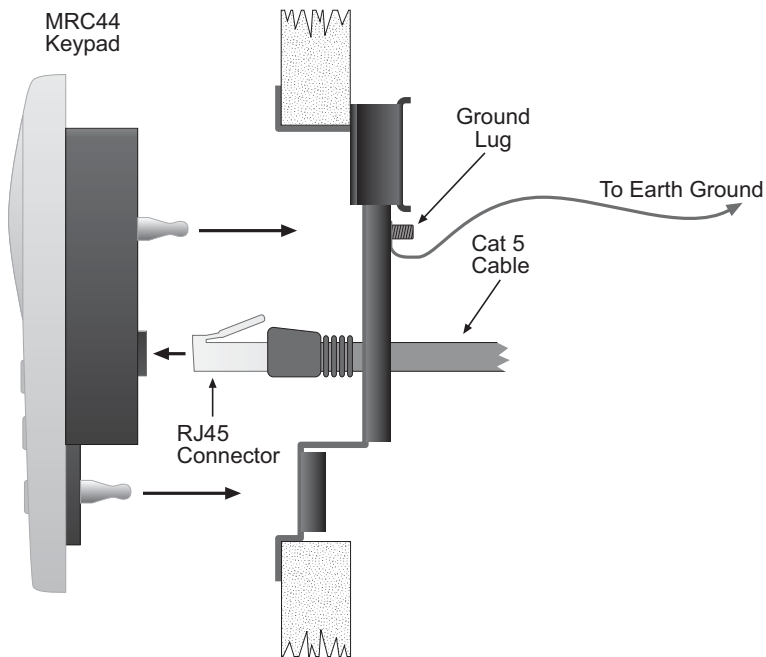

Figure 3 - Mounting and Installing the MRC44 Keypad
5. Firmly snap the MRC44 Keypad into the bracket that you have just installed (see **Figure 3**).